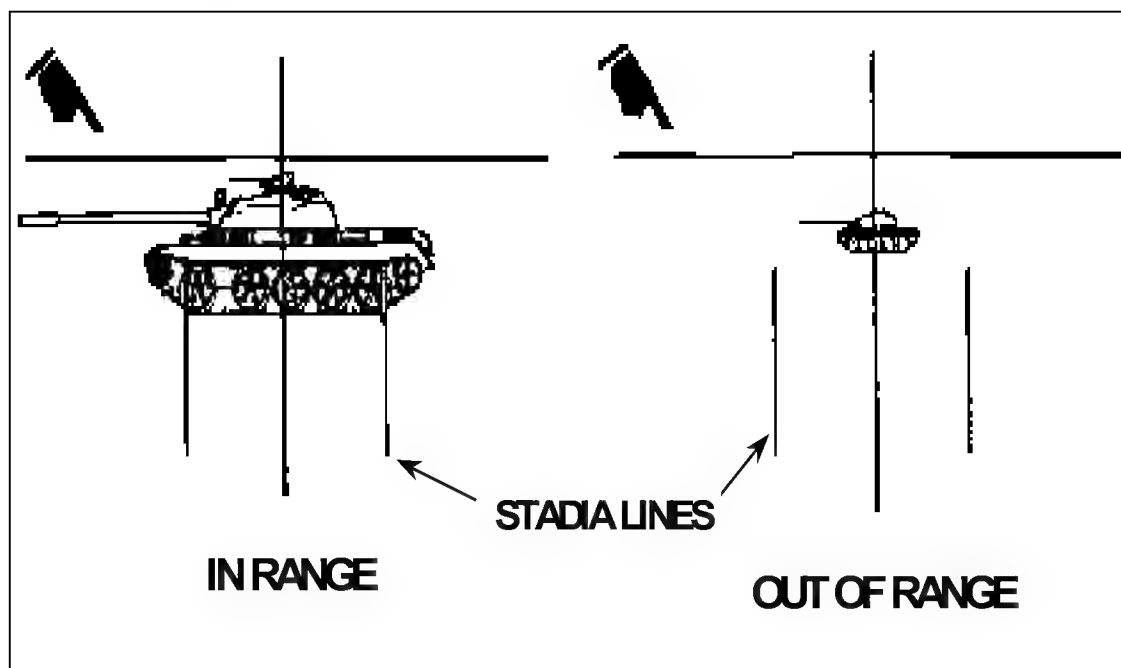

Figure 8-12. Range determination for flank target.
a. **Flanking Targets (Full Stadia).** Adjust the sight picture by moving the launcher so the target centers between the stadia lines (Figure 8-12, page 8-13).